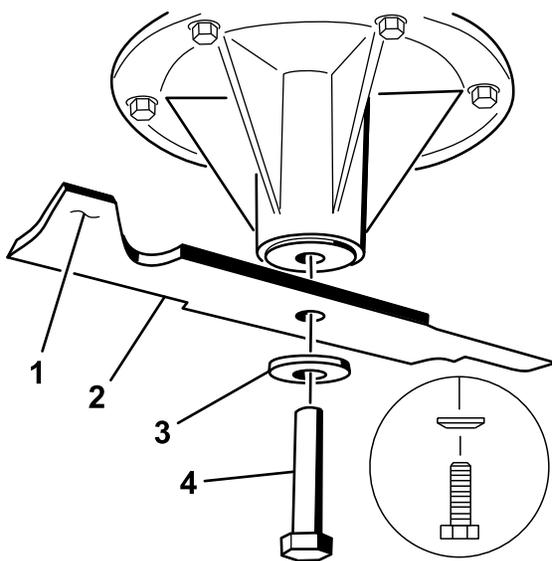

Figure 101
3. If the blade is not balanced, file some metal off the end of the sail area only (Figure 101).
1. Install the blade onto the spindle shaft (Figure 101).
2. Install the spring disk and the blade bolt. The spring disk cone must be installed toward the bolt head (Figure 101). Torque the blade bolt to 115 to 150 N·m (85 to 110 ft-lb).